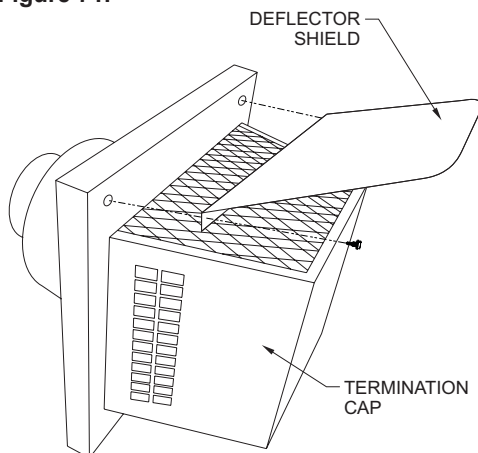

Figure 71
10. Secure the termination cap to the house exterior using four 1/8 x 3 inch long screws. Be sure to install the Deflector Shield with the two screws at the top of the termination base. **See Figure 71.**